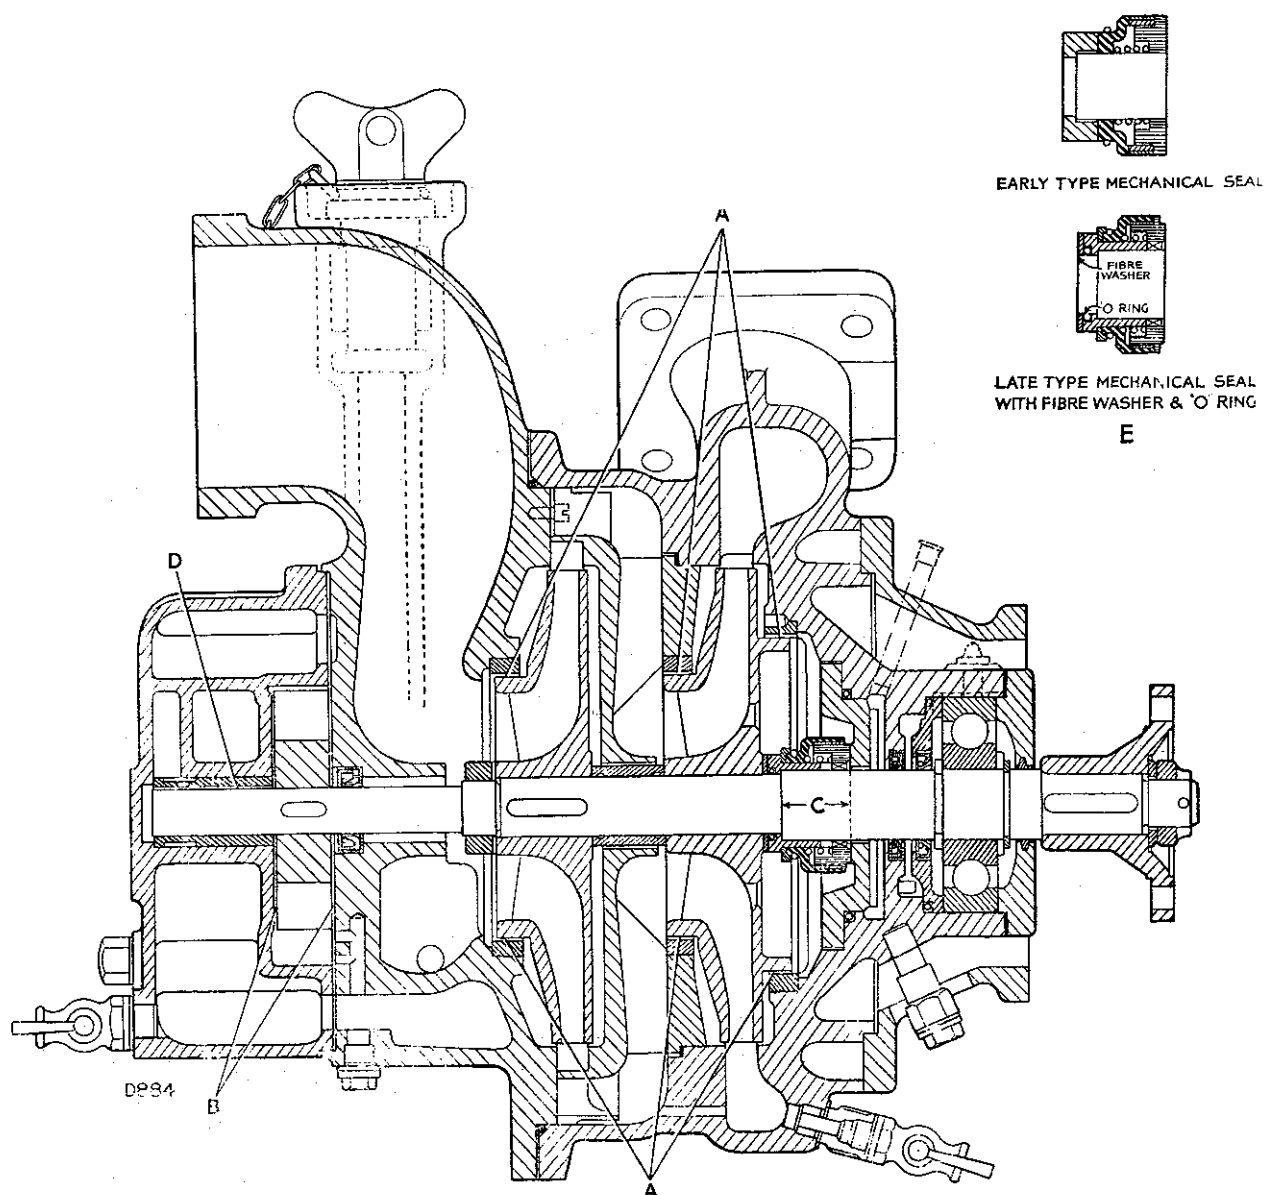

Fig. T-45—Sectioned view of pump, Serial No. A745060 onwards
*Note:* On pumps prior to Serial No. A745060 if the early type mechanical seal having a large distance piece and no fibre washer or "O" ring is fitted, it may be replaced by the latest type complete with fibre washer and "O" ring. When fitting the latest type mechanical seal the original seal distance piece as well as the seal should be discarded (see 'E', Fig. T-45).